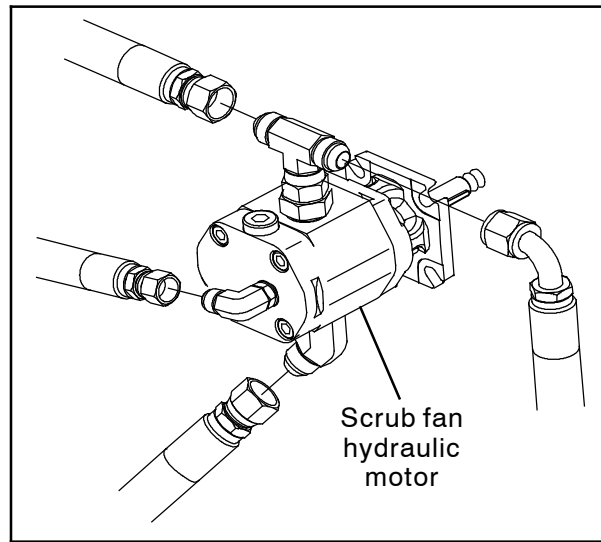

FIG. 7
- Disconnect the four hydraulic hoses from the fittings on the scrub fan hydraulic motor. Leave fitting installed on the scrub fan motor. (Fig. 7)